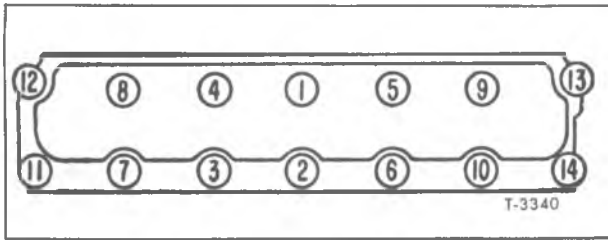

Figure 13—Cylinder Head Bolt Tightening Sequence for In-Line Engine
1. Tighten cylinder head bolts in sequence indicated in figure 13. Correct torque is 95 foot-pounds.